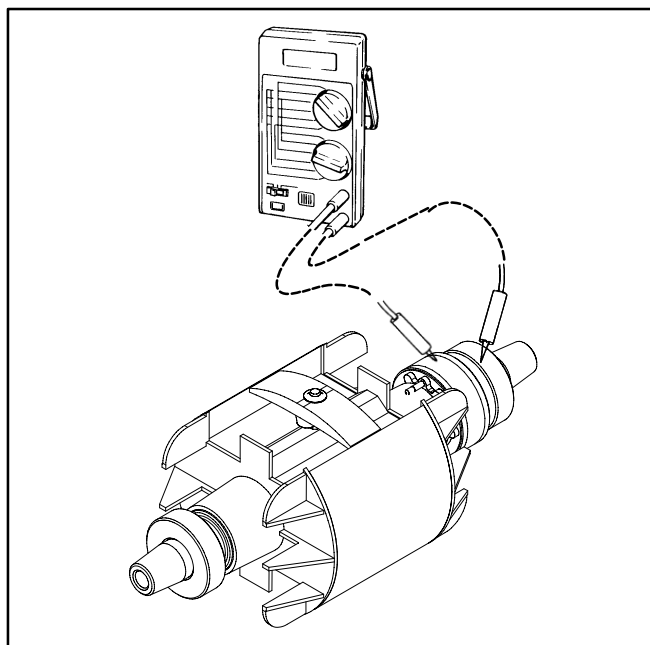

FIGURE 8-3. OPEN OR SHORTED ROTOR TEST
3. Check rotor resistance across the slip rings (Figure 8-3). Replace the rotor if resistance is not as specified.